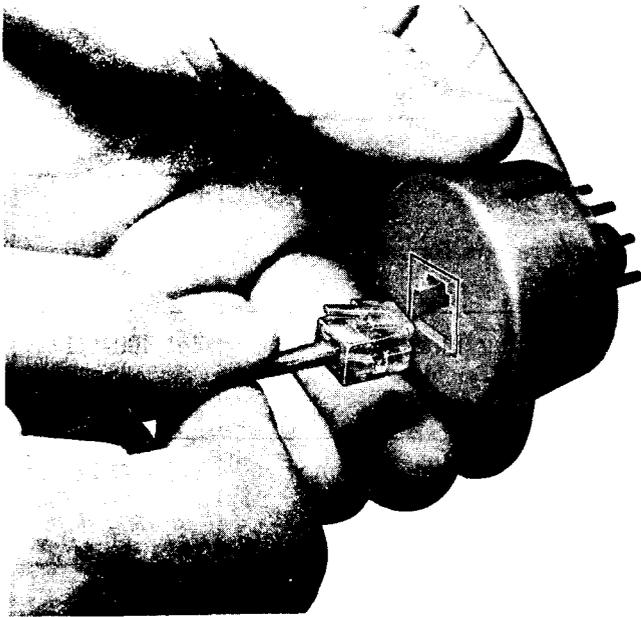

Fig. 1—224A Adapter
2.01 The 224A adapter (Fig. 1) is used to adapt a modular telephone set to work in a 12-pin jack.